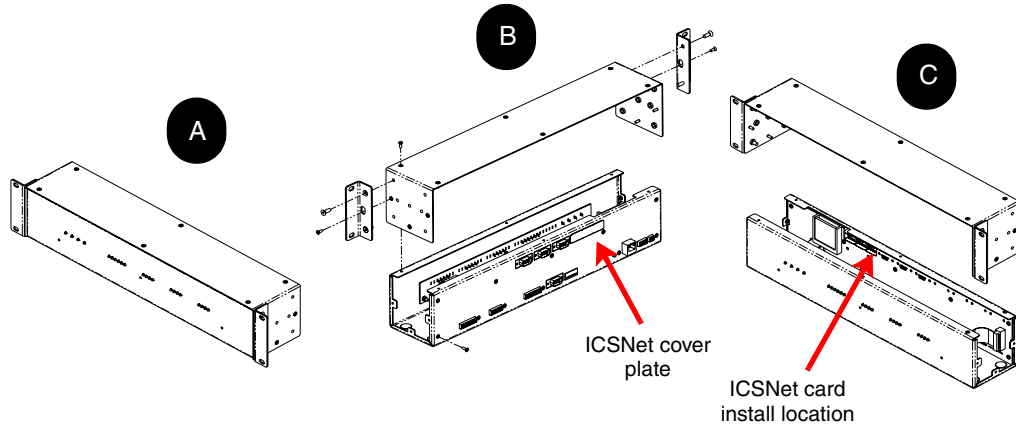
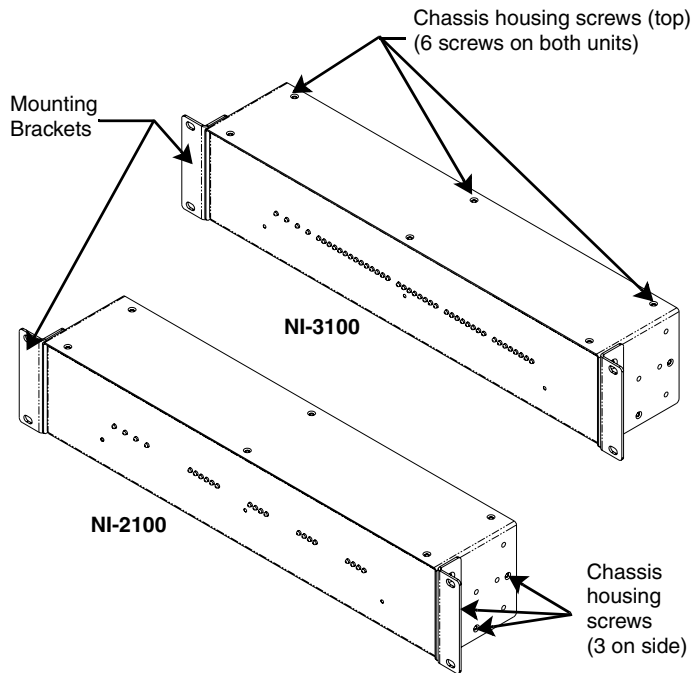

FIG. 10 Chassis removal overview for NI-2100 and NI-3100 units
FIG. 11 Chassis screw locations
2. Remove the chassis housing screws from both the sides and top of the NI-2100/3100 Controllers, as shown in both FIG. 10 and FIG. 11 by using a grounded screwdriver. The NI-2100/3100 units each have six screws on top and three at either side.
- You can choose to also remove the factory-installed mounting brackets by using a grounded screwdriver to remove the two sets of screws securing these brackets (**B** in FIG. 10).
3. Carefully pull-up and remove the housing from the Controller to expose the internal circuit board (**B** and **C** in FIG. 10).
2. Insert and secure the chassis housing screws back into their respective locations on both the sides and top of the NI-2100/3100 Controllers, as shown in both FIG. 10 and FIG. 11 by using a grounded screwdriver. The NI-2100/3100 units each have six screws on top and three at either side.
- You can choose to also re-install the mounting brackets by using a grounded screwdriver to resecure the two sets of screws securing these brackets (**B** in FIG. 10).